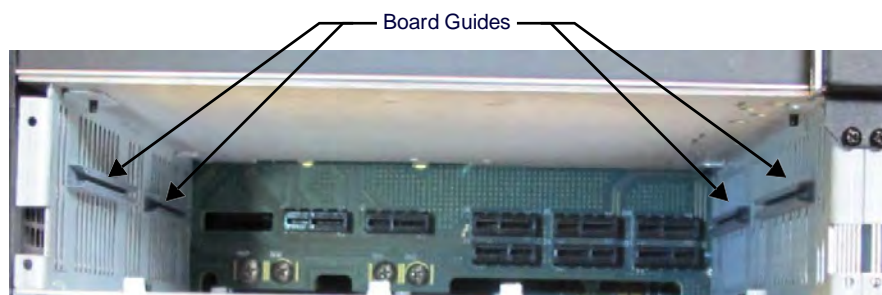

FIG. 173 Use removal tab to pull CPU straight out
7. Slowly slide the replacement CPU board into the empty slot, being careful to align the edges in the board guides along the insides of the slot (FIG. 173).